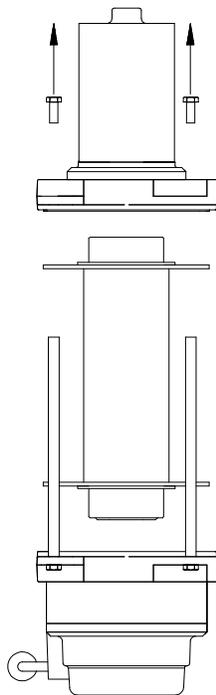

Figure 2.1
2. Stand the winch on the gear housing end (*Figure 2.1*). **NOTE:** Plastic sealing material may have to be peeled off to access parts on the motor end of the winch. Mark the three tie rod locations for easier re-assembly. Remove the motor end and drum by removing the three 3/8 inch tie rod bolts on the motor end. (If your winch is equipped with a wire rope tensioner, see Appendix 4.2 for removal and re-assembly.)
9. Set drum into seal and bushing. Insert hex drive shaft and motor coupler into drum and into engagement with coupler (*Figure 2.1*).
10. Install three motor end cap screws into tie rods. Torque all six cap screws to 18-22 ft. lb. (*Figure 2.1*).